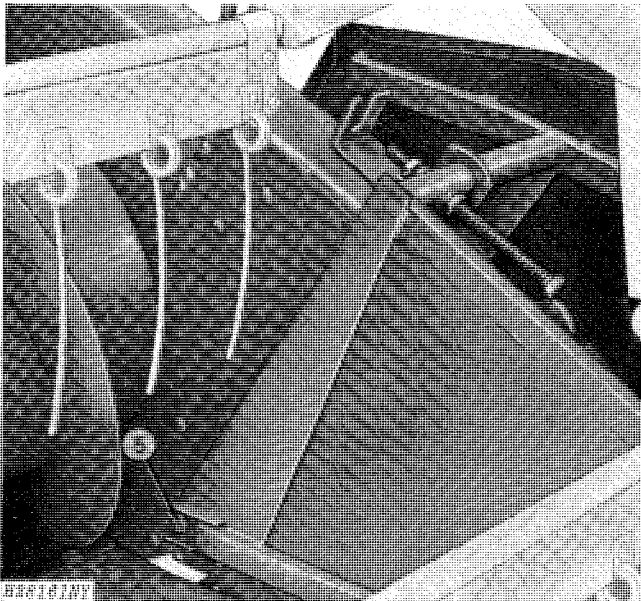

Fig. 69-Attaching Divider Point to Inside Bracket
5. Attach divider point to inside support bracket with a 5/8 x 2-1/2-inch cap screw, 21/32 x 1-1/2 x .120-inch flat washer, lock washer, and nut (Fig. 69).